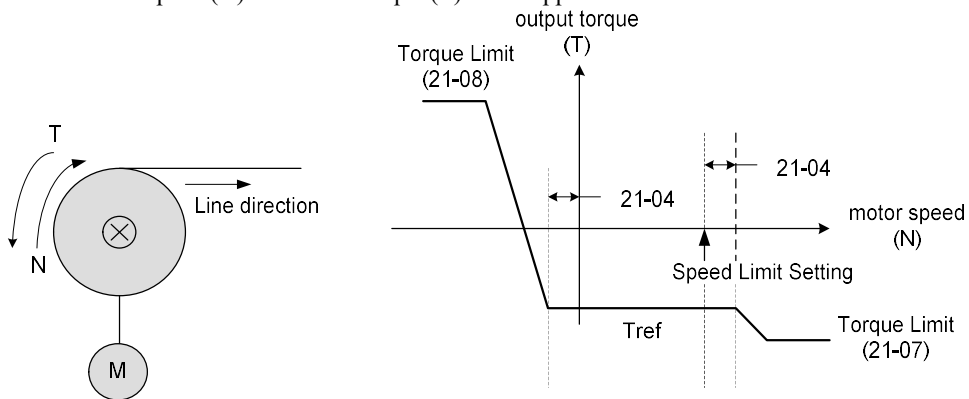

Figure 4.3.165 Unwinding Operation
·The line speed (N) and motor torque (T) are generated in the same direction by the motor. Refer to the below Figure 4.3.165